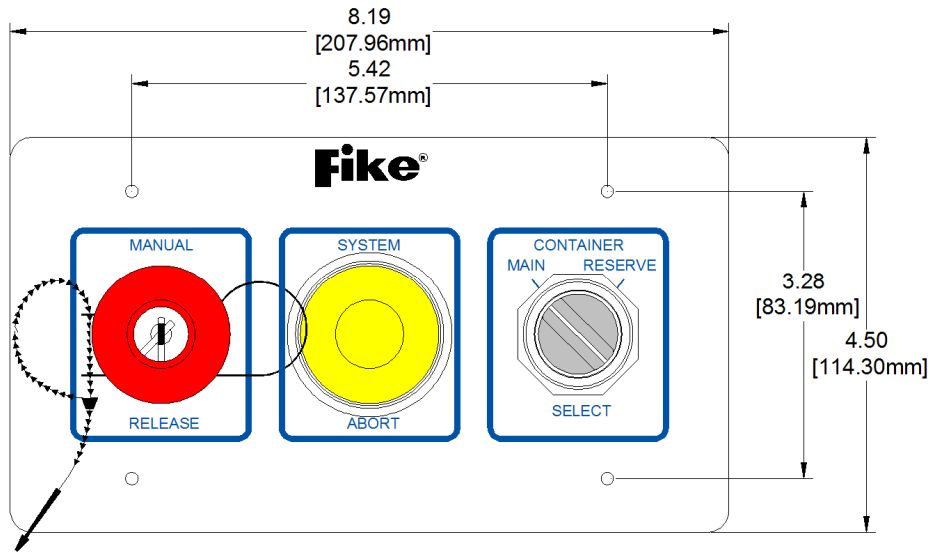

Figure 1 Switch Front View (inches/mm)
1. Remove protective plastic film from stainless steel face plate and apply the adhesive label, oriented as shown in Figure 1.
1. Apply the adhesive label to the stainless steel face plate, orientated as shown in Figure 1.
1. Apply adhesive label to stainless steel face plate, orientated as shown in Figure 1.